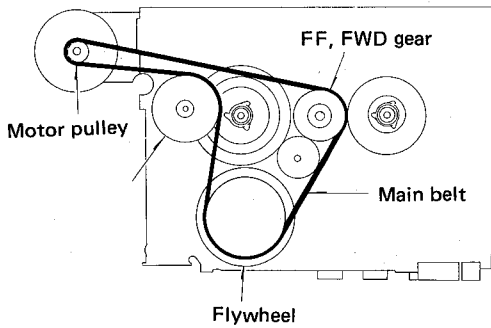

Fig. 13
- * The main belt should be fitted correctly as illustrated. (See Figure 13.)